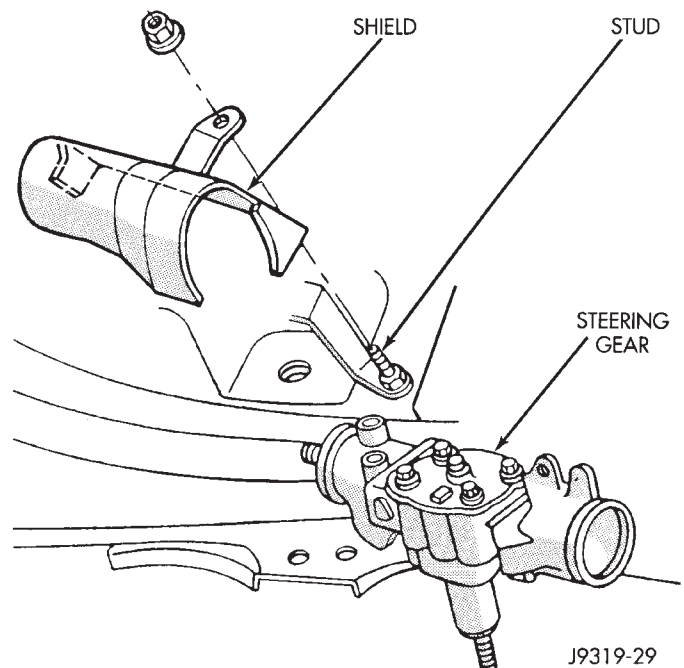

Fig. 4 Shaft Stone Shield
- (1) Place the front wheels in the straight ahead position.
- (2) Remove the column intermediate (coupling) shaft stone shield (Fig. 4).